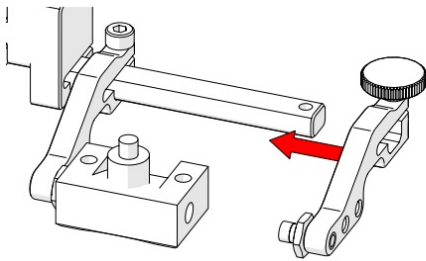

Fig. 4 - Mount wedge
5. Place the wedge on the inner probe holder arm's button and clamp in place with the outer probe holder arm (Fig. 4). Tighten the probe holder arm adjustment knob.